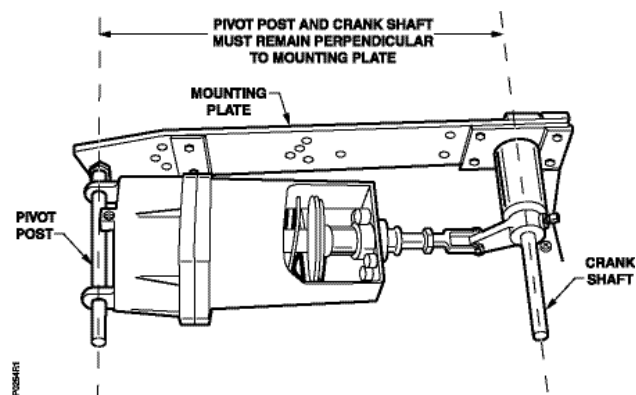

Figure 4. Perpendicular Mounting.
It is important to use the "X" and "Y" dimensions from Table 2 to position the actuator to ensure that the crank is approximately perpendicular to the actuator shaft at half its stroke (see Figure 4). This will prevent the linkage from scissoring or locking up.
3. Thread Clevis 331-801 on to actuator shaft and tighten against locknut. Assemble Linkage Kit 331-958 to actuator assembly (see Figure 4). The linkage is assembled so that the damper shaft will rotate counterclockwise as actuator pressure increases. This is a typical normally closed damper installation.